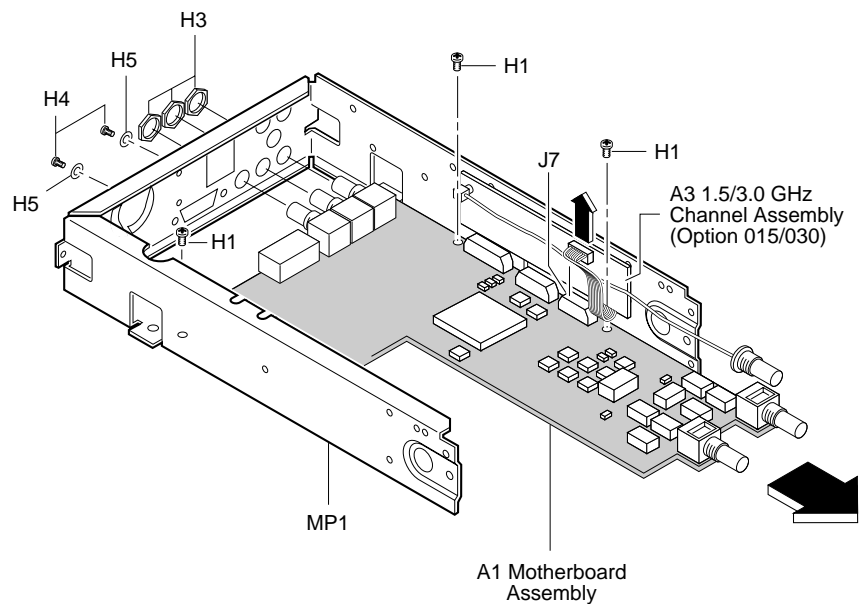

Figure 3-6. A1 Motherboard Assembly Removal
4 If the Counter contains Option 015/030/050/124 1.5/3.0/5.0/12.4 GHz Channel, disconnect the optional channel’s flat-ribbon cable from J7 on A1 Motherboard Assembly as shown in Figure 3-6.
7 Remove the two hex screws (H4), shown in Figure 3-6, on the rear-panel GPIB connector using the 7-mm spin tight.
- 8 Remove the BNC nuts (H3), shown in Figure 3-6, from the rear of the chassis using the 14-mm deep-socket spin tight (Opt 015/030 only). Remove knurled nut for Option 050.**
- 9 Remove the three screws (H1) in A1 Motherboard Assembly as shown in Figure 3-6.**